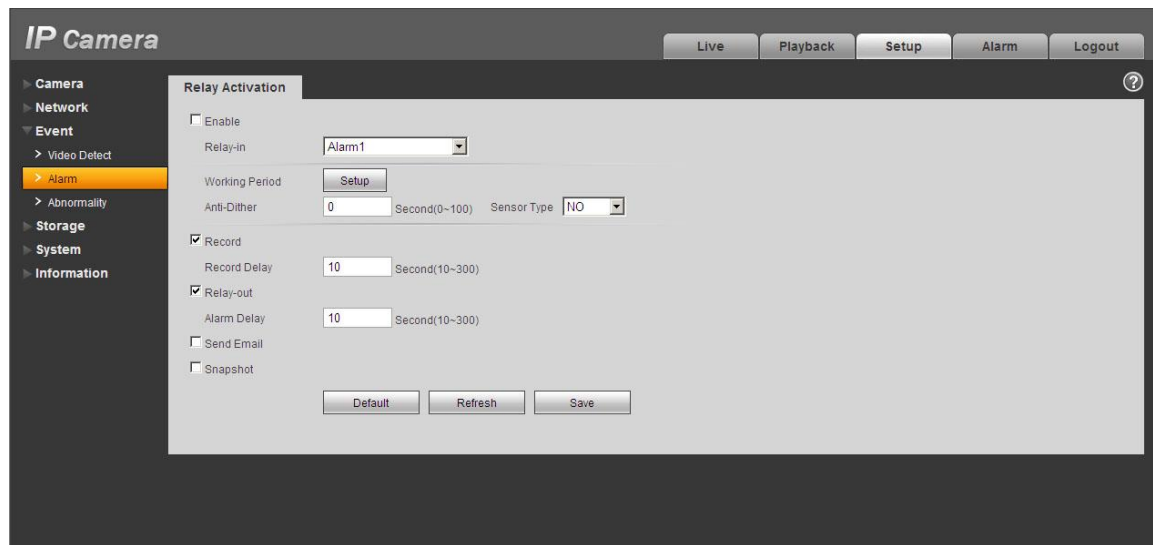

Figure 2-4 Alarm
The alarm interface is shown as in Figure 2-4. Please follow the steps listed below for local alarm input and output connection.
- 3) Open the Web, go to the Figure 2-4. Please set the alarm input 01 port for the first channel of the I/O cable (No.3 pin). The alarm input 02 is for the 2nd channel of I/O cable (No.4 pin). Then you can select the corresponding type (NO/NC.)